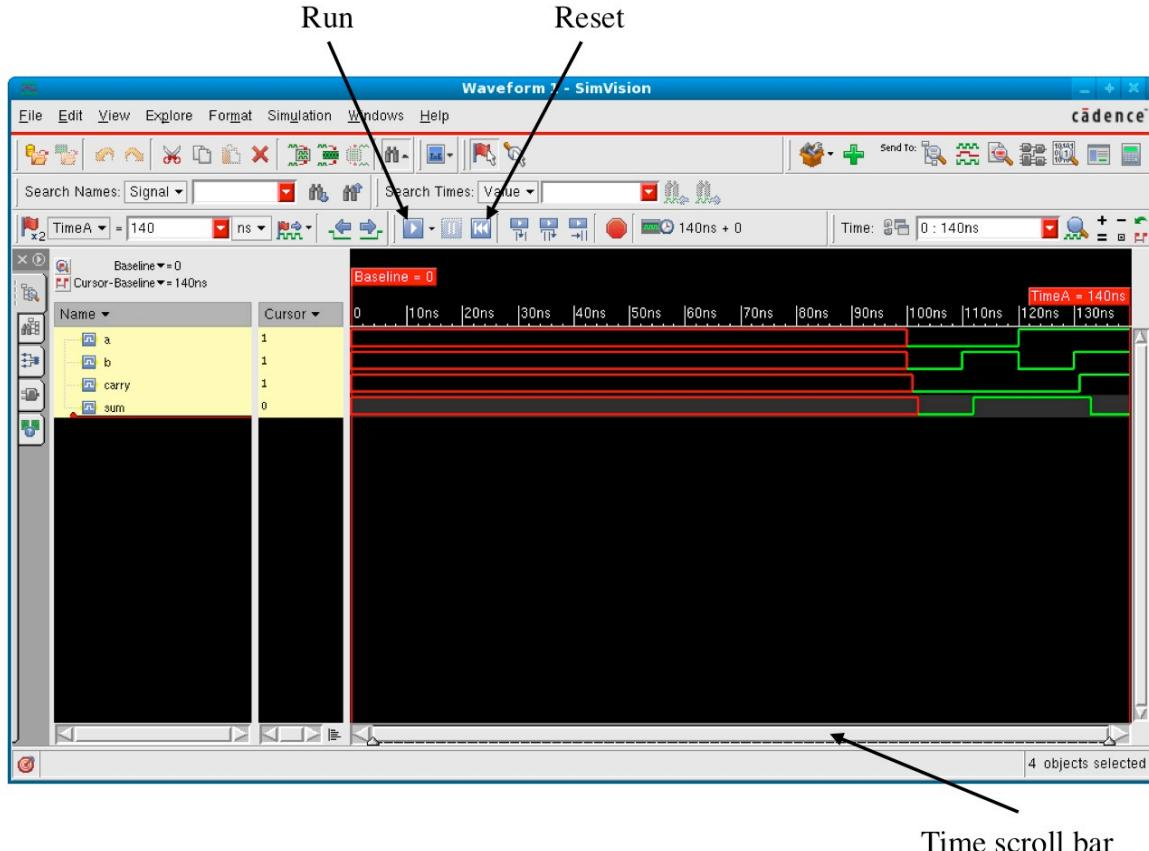

Figure 4.10: SimVision waveform viewer
2. Find SimVision waveform viewer, as shown in figure 4.10 (it should already be open).
3. When the SimVision window opens, there will be no traces visible. Click the “Run” button, as illustrated in figure 4.10, and the waveforms (or traces) should appear. Note: you can use the scroll bar at the bottom of the waveform viewer window to change the time scale shown, so you can zoom-in (in time) on certain parts of the waveforms.